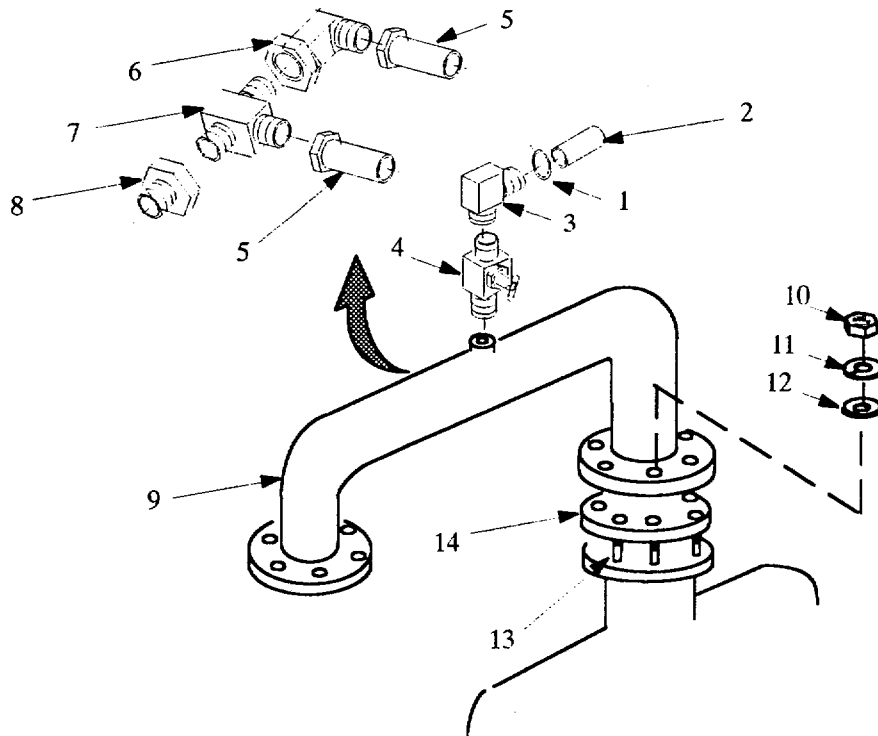

Figure 4-64.1 Discharge Connection Maintenance (Model 350 PAFN).
- a. Loosen clamp (Figure 4-64.1, item 1) and disconnect bleed hose (2).
- b. Remove elbow (3) and vent shutoff cock (4).
- c. Disconnect discharge pressure hoses (5) from elbow (6).
- d. Remove elbow(6). tee(7) and bushing(8) from discharge elbow(9).
- a. Position gasket (Figure 4-64.1, Item 14) onto studs (13) on centrifugal pump.